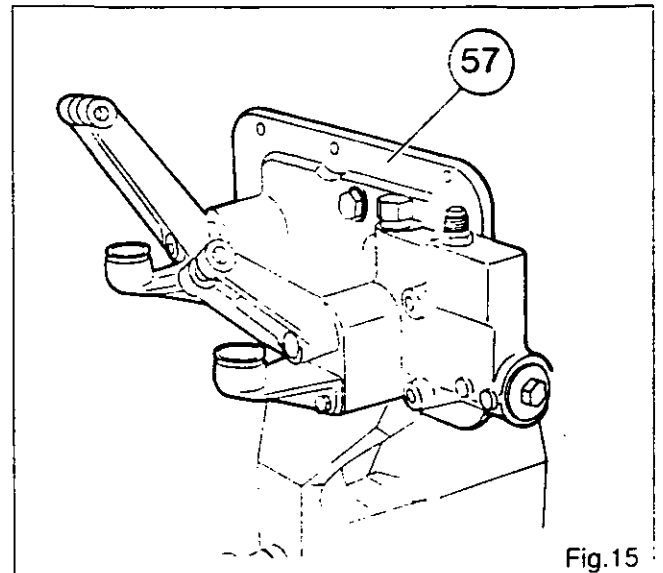
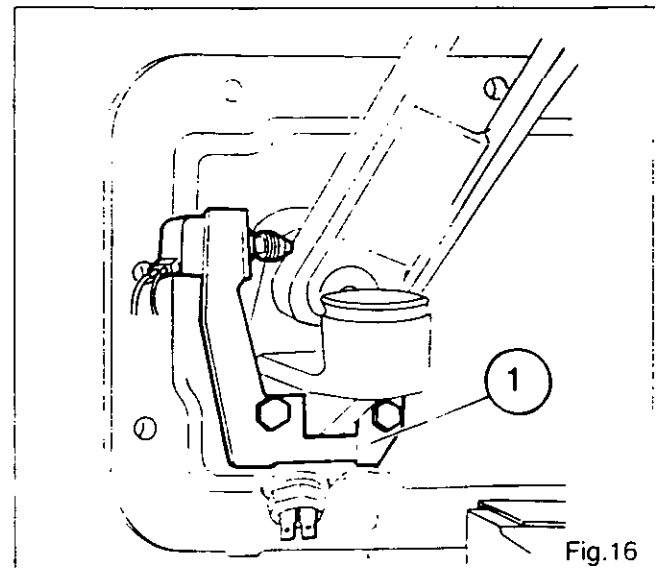
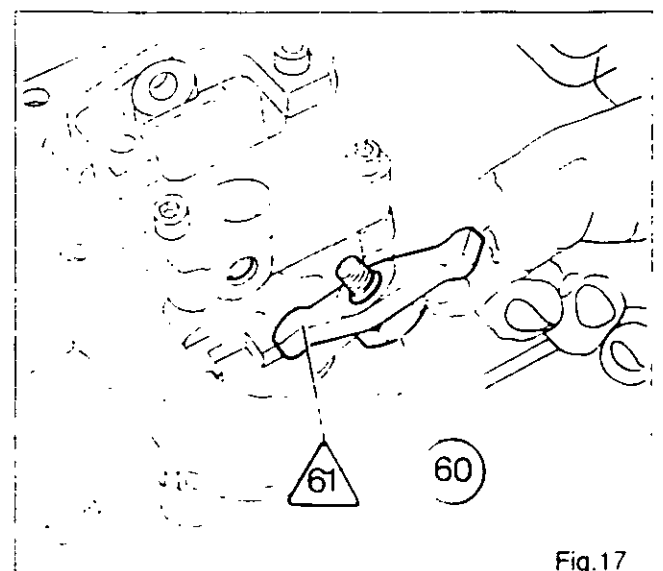

Fig.15
Fig.16
Fig.17
15. Clamp cover (57) in a vice (Fig. 15).
16. Unscrew pressure valve (58) and plunger (59).
17. Unscrew bolts (29) and (30), and (4) and (5), and take off supports (6) and (31).
**N.B.: On gearboxes fitted with a speed limiter, take off support (1) (Fig. 16).**
18. Unscrew setscrews (15) and (52) and remove arms (10) and (32).
19. Unscrew setscrew (55), withdraw shaft (53) and take off the reverse- controlling U-arm (54).
20. Withdraw cotter pin (62), washer (64), spring washer (65) and pin (63) and take off finger (66).
21. Unscrew shoulder screw (60), mark which way round A/B control finger (61) fits, and remove the finger (Fig. 17).
22. Unscrew A range plug (77), take off O-ring (76) and unscrew nut (75).
23. Withdraw washer (74), piston (72), adjusting shims [71] O-ring (73), piston rod (68) and O-ring (69).
24. Unscrew bolts (44), (45) and (47).
25. Take off support (46).
26. Withdraw dowel pins (43) and (48) from the cover.
27. Unscrew bolt (34) and withdraw the selecting arm assembly.
28. Remove cup seals (38) (40) and spring (39).
29. Withdraw arm (36) from mounting block (35) and remove cup seal (41) and spring (42) from the arm (36).
30. Unscrew Hi-Lo switch (1), remove O-ring (2), plug (19) and union (67).
31. Remove seals (37) and (50).